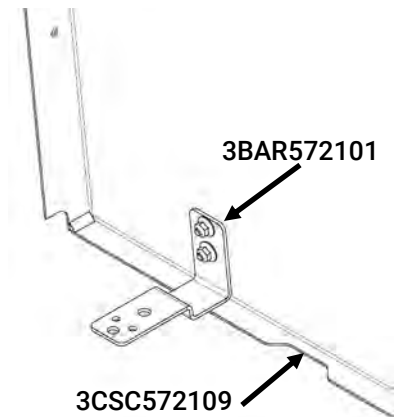

Figure 3
- A. Locate the (2) Lower Barrier Brackets [3BAR572101], the (4) carriage bolts [3X36], and the (4) 1/4-20 whiz nuts [3X612].
- C. Loosely secure the Lower Barrier Brackets in place by inserting the (4) carriage bolts [3X36] through the square holes in the panel and finger tightening the (4) whiz nuts [3X612] onto the bolts. The nuts should be on the back side of the panel against the brackets. Figure 3 shows an installed driver side Lower Barrier Bracket.